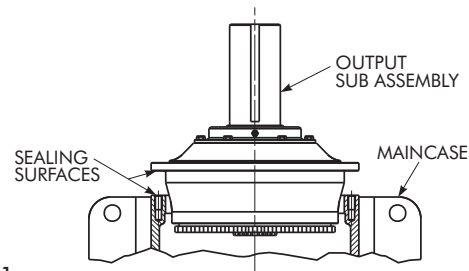

FIGURE 1
- a. Clean the output hub and maincase machined sealing surfaces, wipe both with solvent. Reference Figure 1.